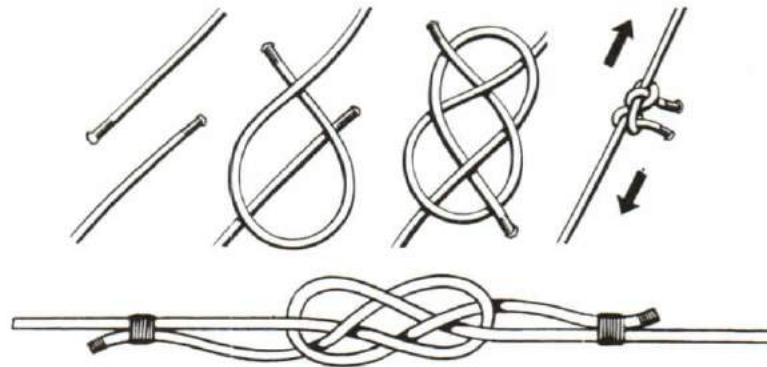

Figure 10-31
4. The Carrick Bend is used for joining two hawsers when the joint must pass round the capstan. The ends should be stopped to their standing parts. Be careful to tie this bend correctly as it is easy to make a mistake. The correct carrick bend is shown in Figure 10-31.
4. Le noeud de vache double sert à joindre deux aussières lorsque l'ajut doit passer autour du cabestan. Il faut génoper les extrémités sur leurs propres dormants. Prendre garde de confectionner l'ajut correctement, car on s'y trompe facilement. La figure 10-31 montre un noeud réussi.